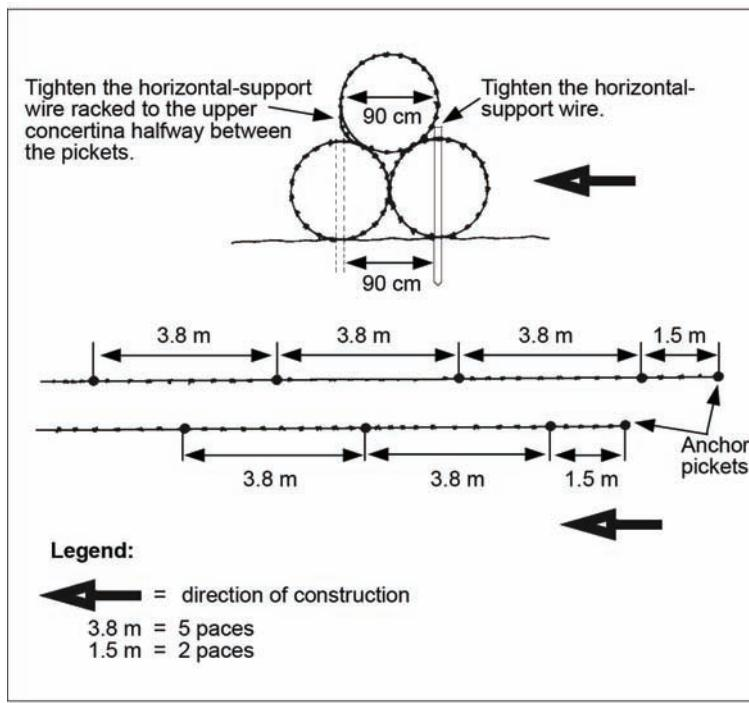

Figure 052-195-3066-1.Triple-standard concertina fence
(1) Ensure that work is done from the enemy side to the friendly side.
(2) Direct the installation of an anchor picket (short picket) at each end of the front row (located on the enemy side) and back row (located on the friendly side) with the first long picket being spaced 1.5 meters (2 paces) from the anchor picket.
(3) Ensure that long pickets are spaced at 3.8-meter (5-pace) intervals, staggering the pickets on the back row between the pickets on the front row (figure 052-195-3066-1).